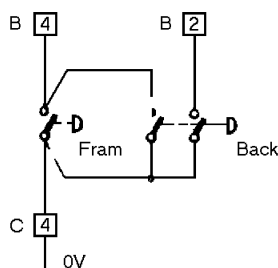

Fig 13
- Remote control of manual travel movement, see fig 13 on page 11.